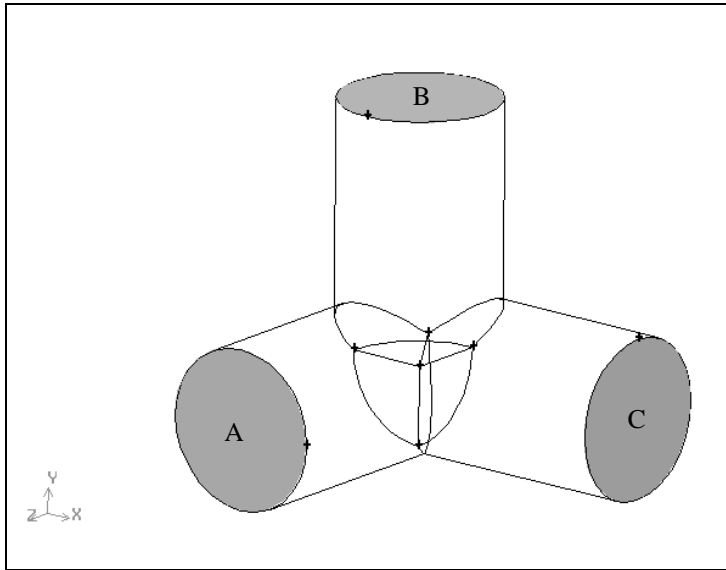

Figure 3-21: Boundary types for faces of the three-pipe intersection
- iv. *Shift*-left-click the end of one of the pipes (the face marked A in Figure 3-21) and click **Apply** to accept the selection.
- ii. Check that `ELEMENT_SIDE` is still selected in the **Type** option menu and *Shift-left-click* the end of one of the other pipes in the graphics window (the face marked **B** in Figure 3-21).
- iv. Set the **Type** for the end of the third pipe (the face marked **C** in Figure 3-21) to be `ELEMENT_SIDE`, using the **Name** `outflow2`.